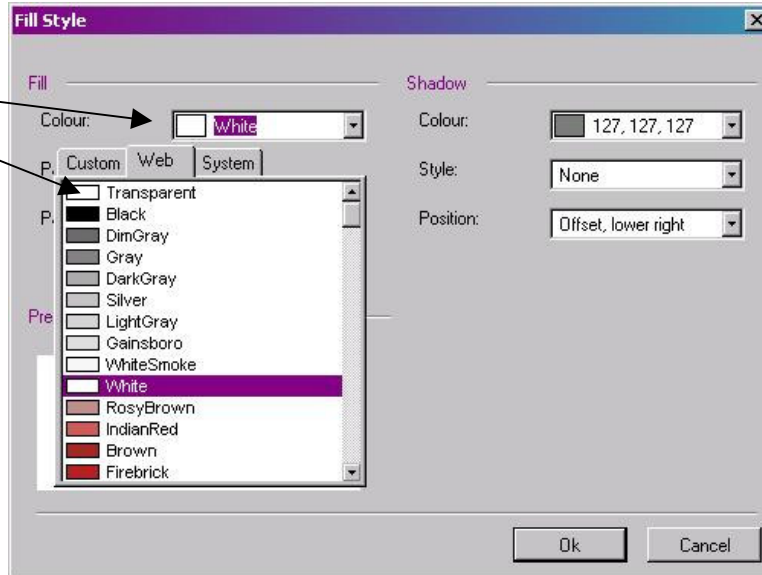

Figure 4.2.5.4: Select the Fill Colour
4. Select the type of pattern you want to fill the shape with (see Figure 4.2.5.5).